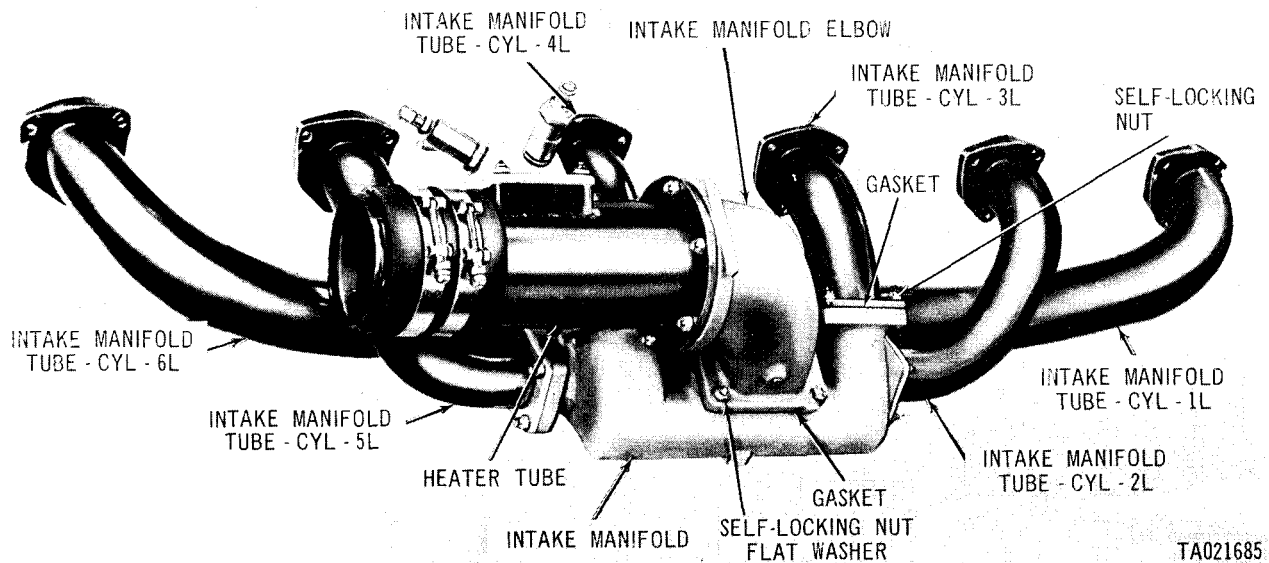

Figure 2-83. Disassembling or assembling intake manifold assembly.
(9) Remove six self-locking nuts and flat washers (fig. 2-83) and remove intake manifold elbow and heater tube as a unit. Remove and discard gasket. Remove eight nuts and remove cylinder 3L and 4L intake manifold tubes. Remove and discard washers. Remove the remaining twelve self-locking nuts securing cylinders 1 L, 2L, 5L and 6L tubes to the intake manifold and remove tubes. Remove preformed packing, flat washers, spring washers and manifold flanges from tubes. Discard preformed packings.
(1) Install manifold flanges, spring washers, flat washers and new preformed packings on manifold tubes 1L, 2L, 5L, and 6L. Install tubes in intake manifold and secure with twelve self-locking nuts (fig. 2-83). Install new gaskets and install intake manifold tubes for cylinders 3L and 4L. Secure each tube with four self-locking nuts.
(2) Install a new intake manifold elbow gasket, and install intake manifold elbow and heater tube and secure with six self-locking nuts and flat washers.